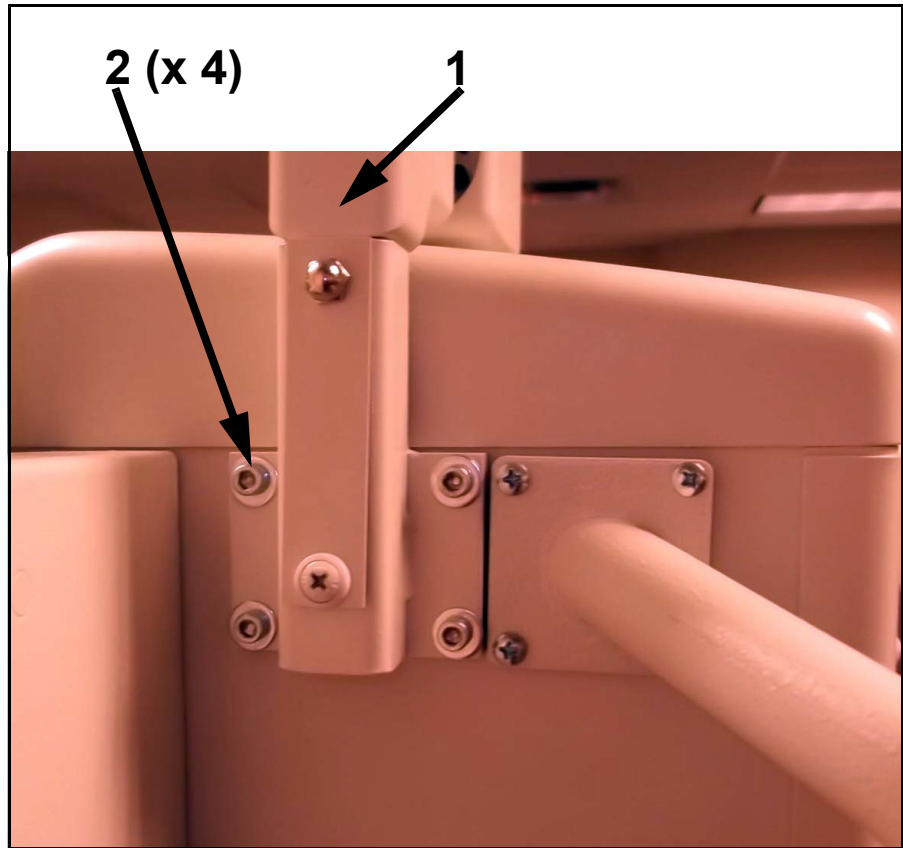

Figure 5-2. Handle Removal
- 1 To remove the handle (1 in Figure 5-2), unscrew handle screws (2) and lift handle.